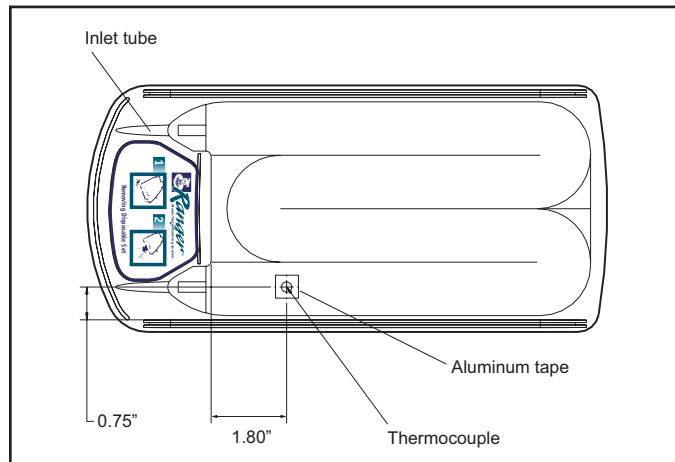

FIG. 1: RANGER STANDARD FLUID WARMING CASSETTE
1. Use aluminum tape to affix a thermocouple to the top surface of the Ranger warming cassette as shown in Figure 1.